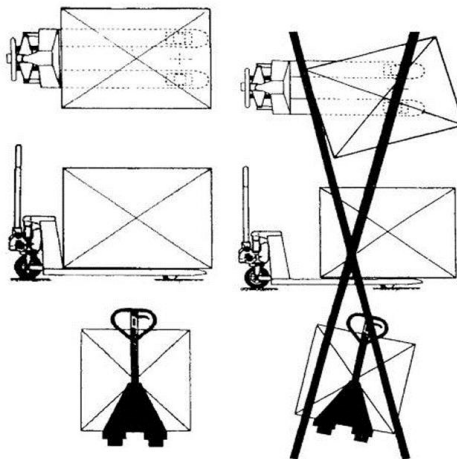

Fig.6
- 5.2 The cargo loading type is shown as Fig 6.